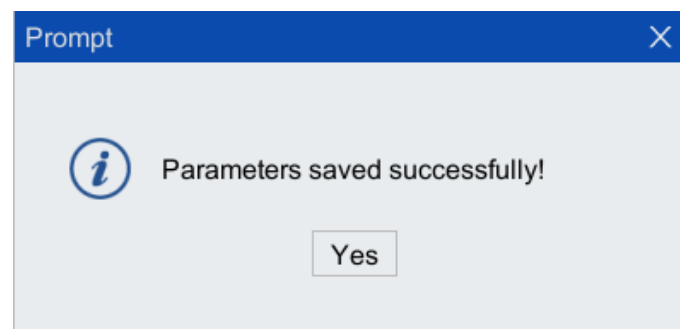

Figure 4-7 Save successful prompt box
Step7. Click <Yes> in the pop-up parameter save success dialog box. As shown in Figure 4-7.